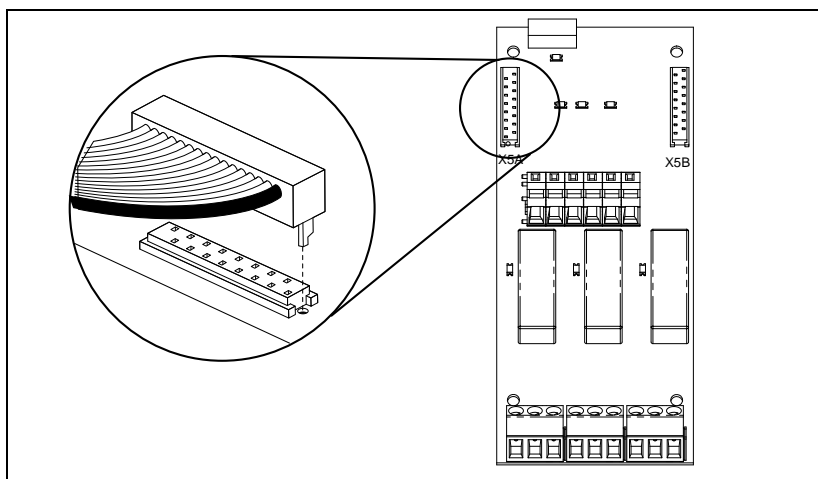

Fig. 18 Connect the flat cable to X5A connector on the option board.
1. Connect the short 16-pole flat cable (32 mm) to the X5A connector on the option board as in Fig. 18.